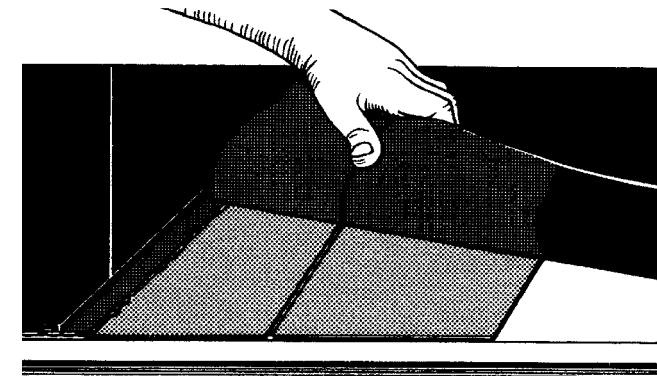

Fig. 5-16
28. With the belt edges properly aligned, carefully lay the ends together making a tight uniform joint at the bottom ply. Make sure fabric is not overlapped (Fig. 5-16).